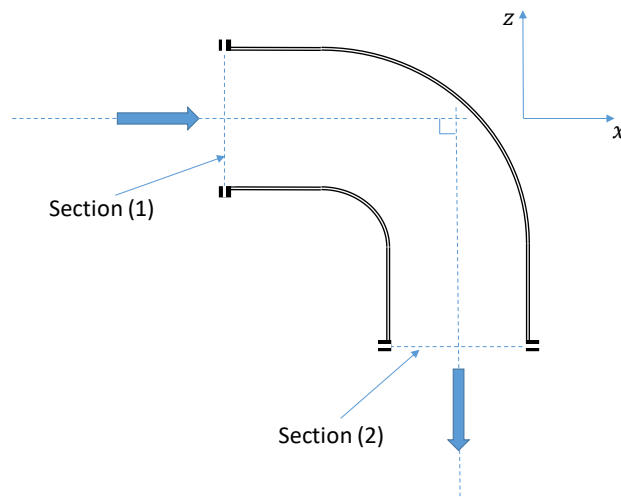

Figure 1. Question 2.
2. There is an angle of 90° in a pipe elbow in the vertical plane (see Fig. 1). The flow cross section of the pipe is constant at $D = 400$ mm. The elbow flow passage volume is 0.2 m³ between sections (1) and (2). The water volume flowrate is 0.5 m³/s and the elbow inlet and outlet pressures are 100 kPa and 80 kPa. The elbow mass is 10 kg. Calculate the horizontal (x-direction) and vertical (z-direction) anchoring forces required to hold the elbow in place.